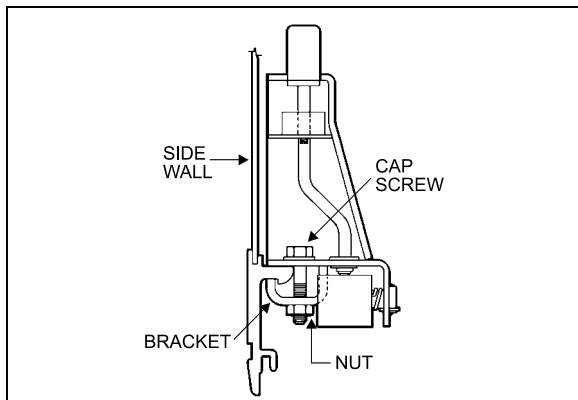

FIGURE 28: ARMREST
4. Remove 2 cap screws, nuts, and washers holding seat frame to side wall and retain the 2 holding brackets. See figures 28 and 29.